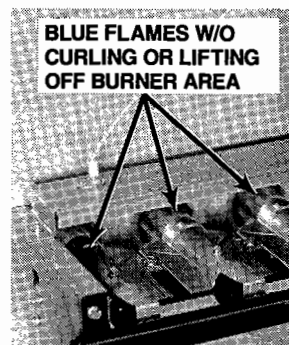

FIG. 8
- H. Turn electrical power on and gas valve on. Set room thermostat to maximum setting so the furnace will fire. Inspect the main burner flames. Natural gas flames should be stable, soft and blue. Propane gas flames may appear slightly yellow. Dust may cause orange tips. Flames should extend directly outward from the burner without curling, floating or lifting off (Fig. 8).